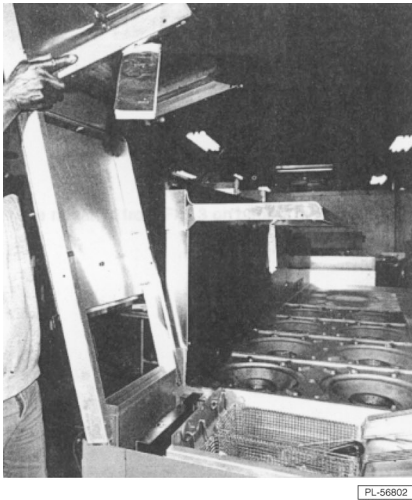

Fig. 6
3. Carefully lift riser, backguard or high shelf over range (Fig. 6).